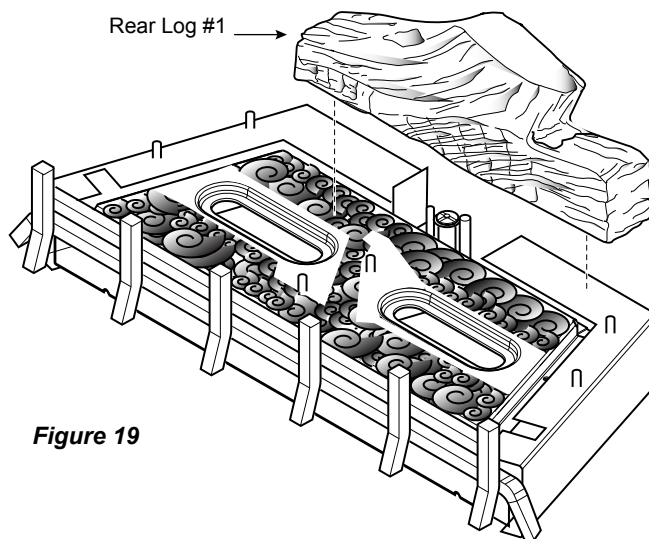

Figure 19
4. Place rear log #1 against back of firebox. *Figure 19*